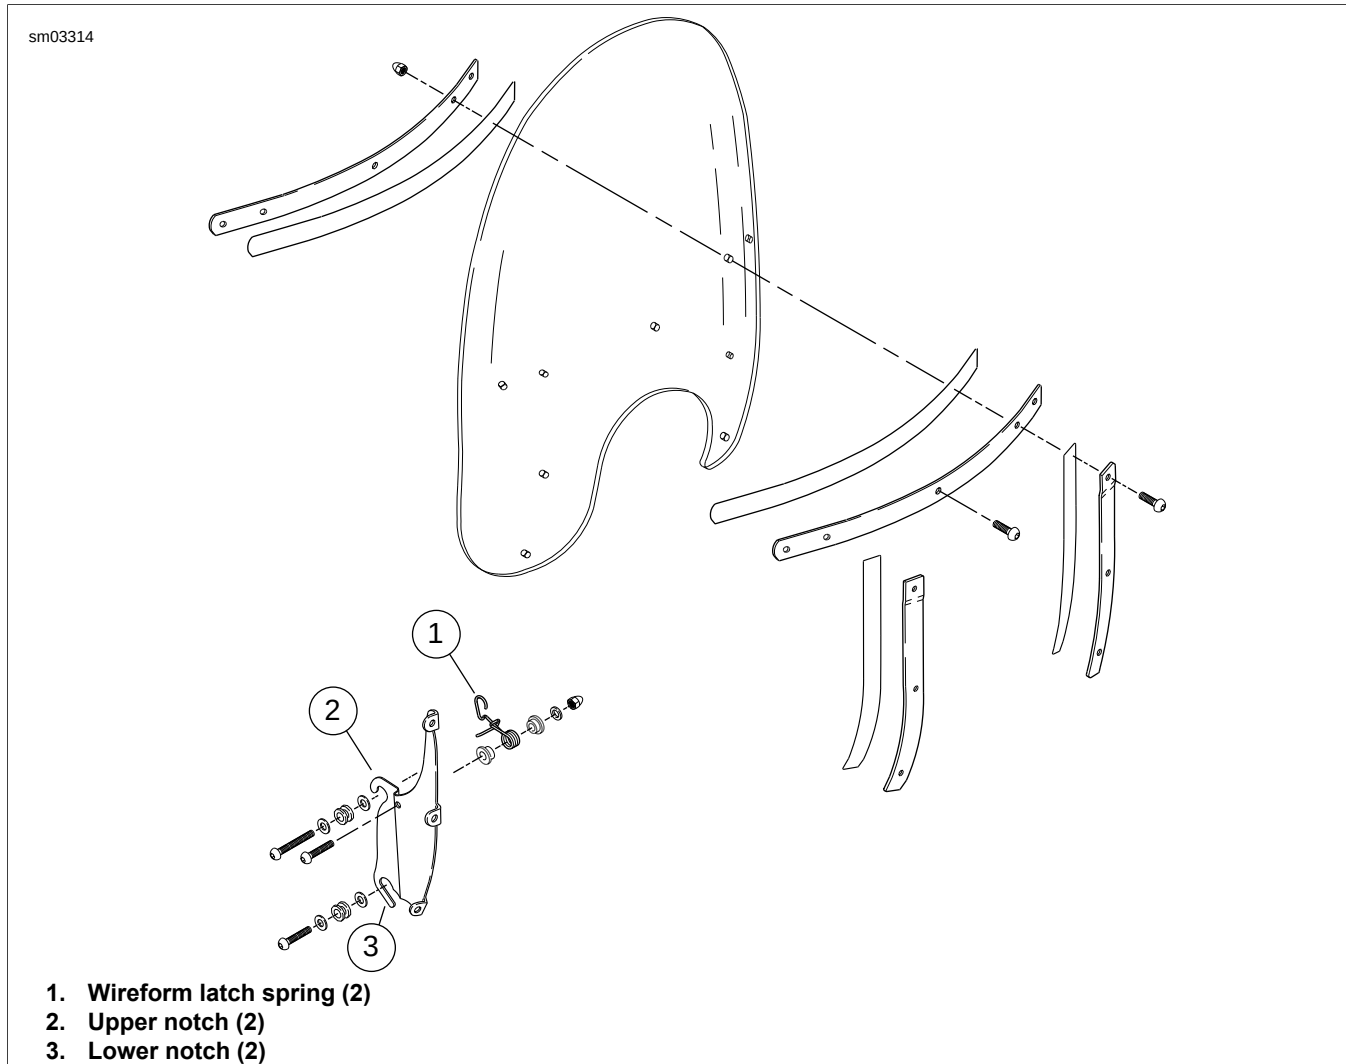

Figure 2-135. Windshield: FLSTC
1. See Figure 2-135. Use a finger to raise the wireform latch springs on each side of the windshield.
2. Standing at the front of the vehicle, gently pull the top of the windshield until the upper notches (2) on the side brackets are free of the upper grommets.
3. Carefully raise the windshield until the lower notches (3) in the side brackets are free of the lower grommets.
1. See Figure 2-135. Lower the windshield into position until the lower notches (3) are seated on the lower grommets.
2. Standing at the front of the vehicle, gently push the top of the windshield toward the rear until the upper notches (2) fully engage the upper grommets.
3. Push down on the wireform latch springs (1) so that they overhang the rubber grommets. If some adjustment is necessary, loosen the retaining bolts and rotate the latch springs into the proper position.